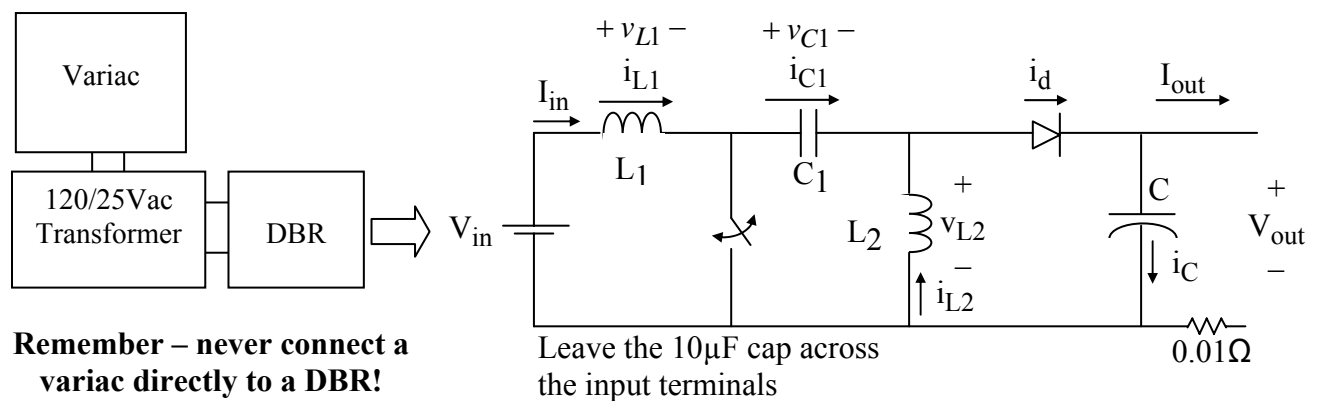

Figure 1. DC-DC Buck/Boost Converter
1. Convert a buck converter to a boost converter, using the circuit shown in Figure 1 of this document.
The idealized buck/boost converter circuit is shown below in Figure 1. Under normal operation, the circuit is in “continuous conduction” (i.e., i_{L1} and i_{L2} are always greater than zero).